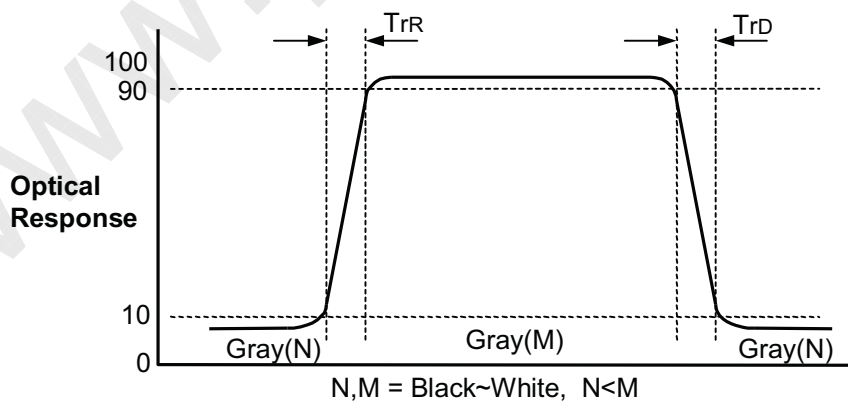

FIG. 3 Response Time
- Response time is the time required for the display to transit from G(N) to G(M) (Rise Time, Tr_R) and from G(M) to G(N) (Decay Time, Tr_D). For additional information see the FIG. 3. ($N < M$)